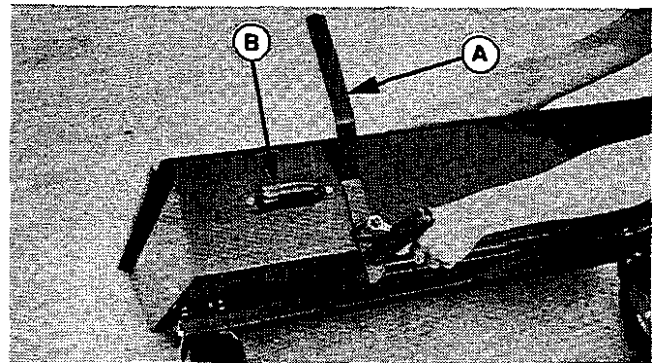

Figure 5
*NOTE: The latch handle (A, figure 5) is located on the right hand side on cart, Mfg. No. 169 1526 and on the left hand side on cart, Mfg. No. 1692085.*
4. Turn box with frame upright and install the latch handle (A, figure 5) and two lii handles (B) as follows: